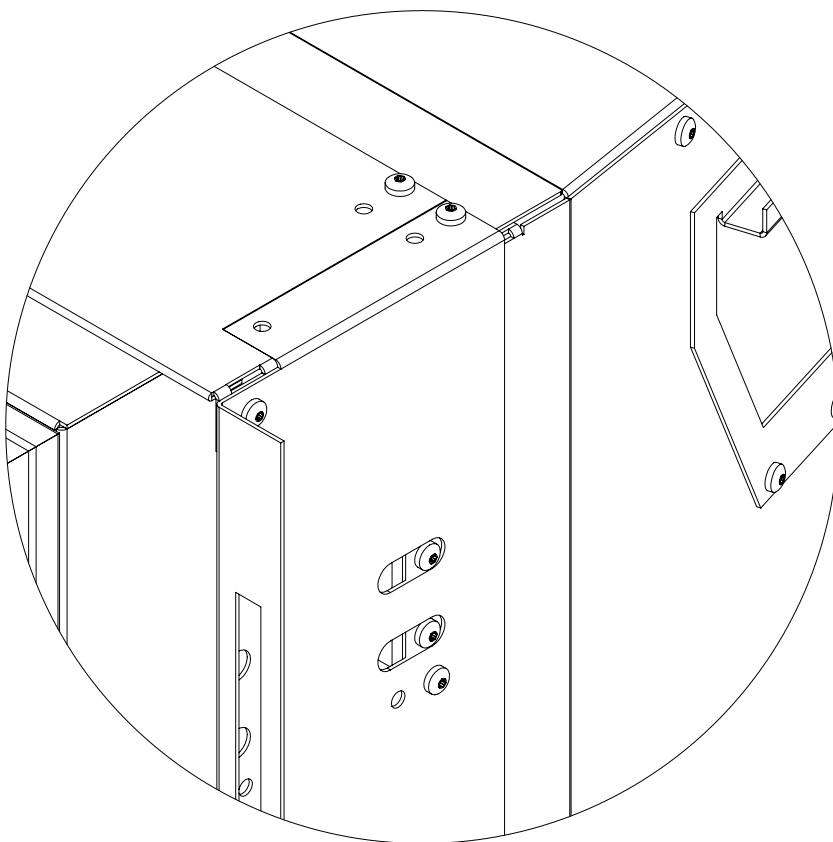

Figure 46: Keystone Surround Extension Setting
3. Slide the side extensions forward until the rear holes line up with the holes in the cabinet (see Figure 46).